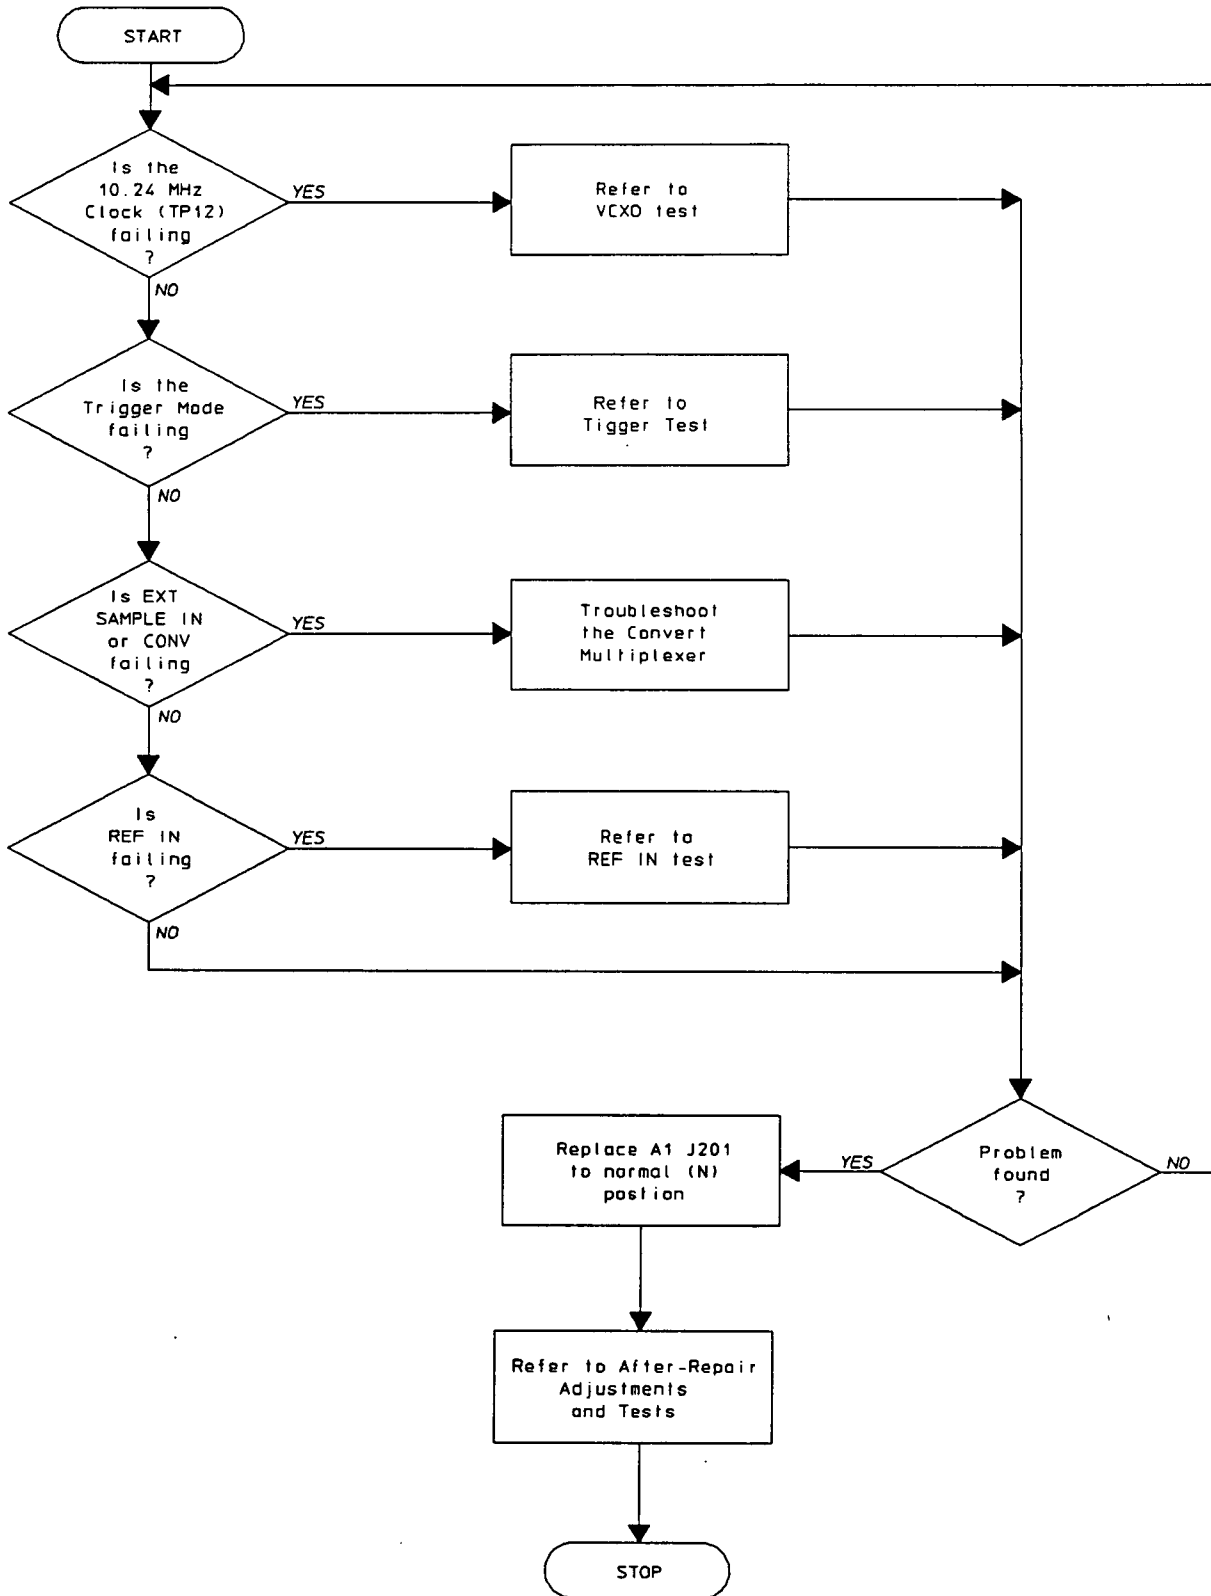

Figure 8-13. A31 Trigger Troubleshooting Procedure Diagram
- Start** Start troubleshooting by using figure 8-13. This procedure diagram describes the best order to perform the troubleshooting tests based on the symptoms observed.